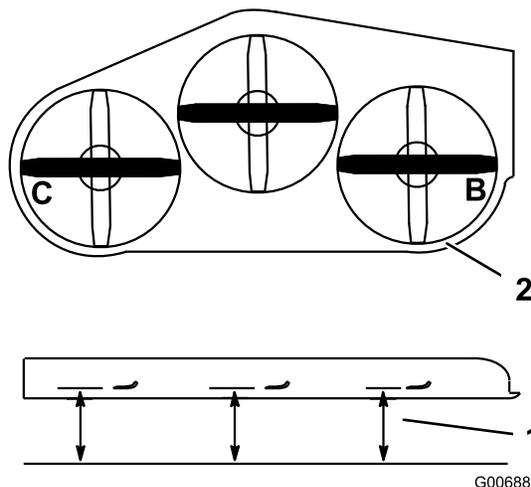

Figure 87
4. Measure at the **B** and **C** locations from a level surface to the cutting edge of blade tips (Figure 87).